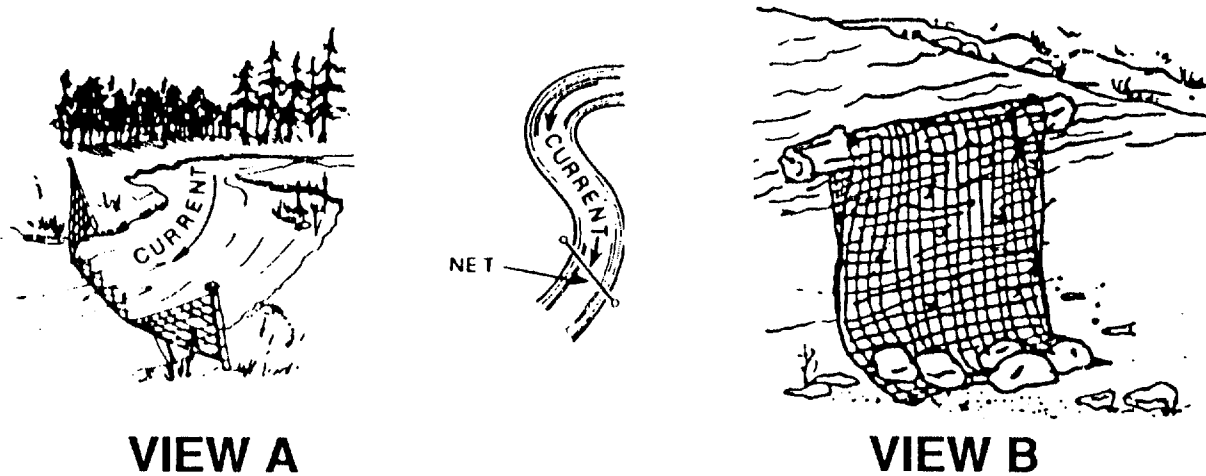

Figure 2-34. Multi-Purpose Net
- I. Multi-Purpose Net. the multi-purpose net may be used in streams, lakes, or oceans as a fishing gill net. One method on land is to set the net (See Figure 2-34, View B) at right angles to the shore, using logs as floats and rocks to anchor the bottom of the net. It may also be used as a food cache, a snare for small game, or a hammock or litter when folded in half.